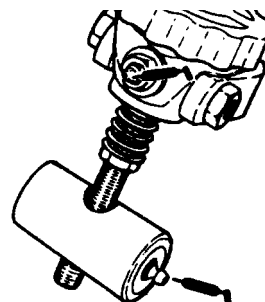
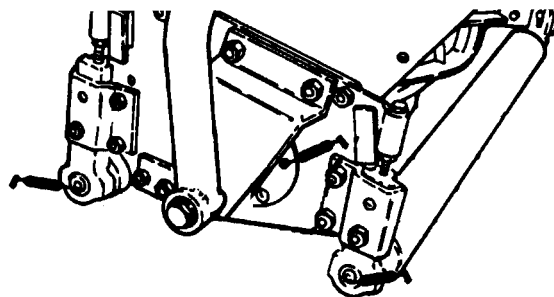

Figure 30
Figure 31
The cutting unit lubrication points are: Single point adjustment knob (2) (Fig. 30), reel flange bearing (2) and front and rear rollers (Fig. 31).